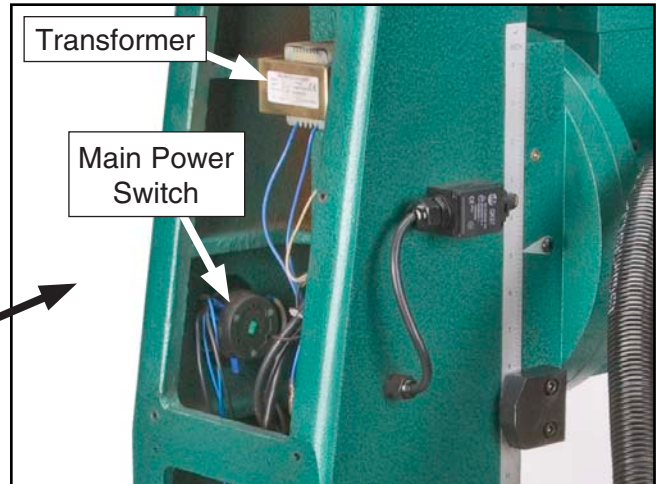

Figure 48. Main power switch and transformer.
- g** Main Power Switch (See Page 39 and Figure 48)